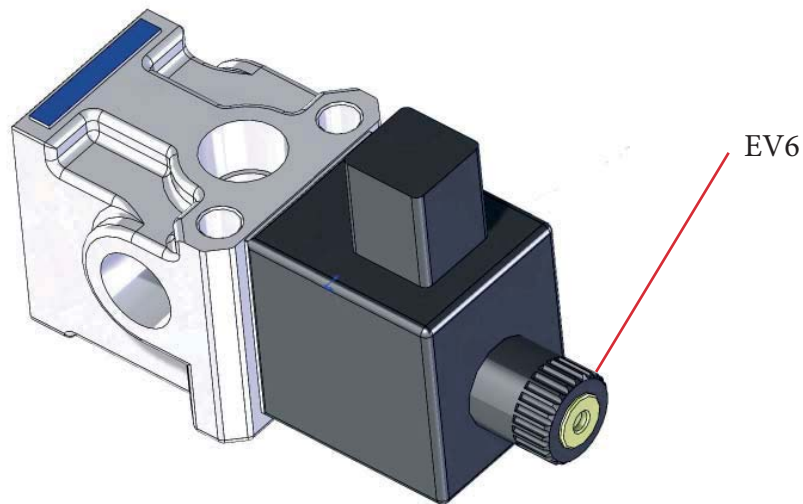

Fig. 4.8
2. insert EV06 by screwing the pin completely (fig. 4.8)